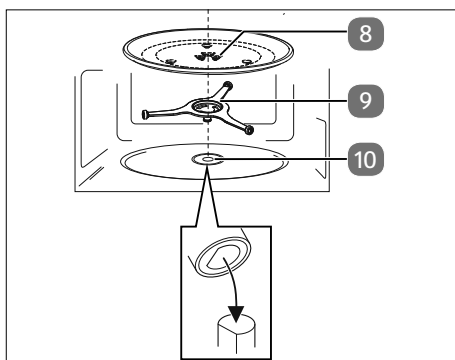

Fig. 5 – Inserting the glass turntable
- ▶ Then place the glass turntable in the centre of the drive shaft (**see Fig. 5**) so that the bars of the glass turntable lie in the recesses on the drive coupling star.